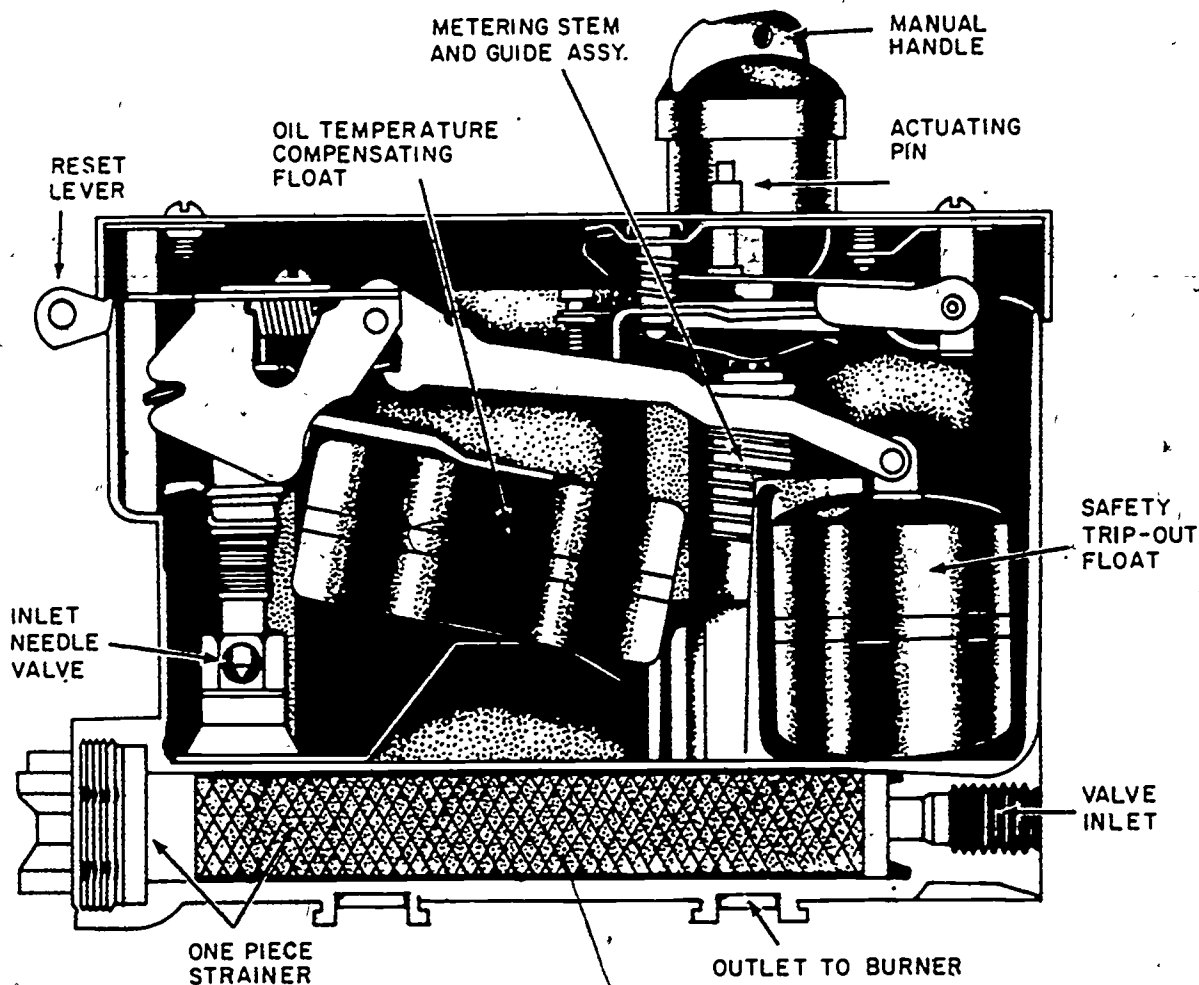

Figure 1-12. Oil control metering valve.
The oil control valve, shown in figure 1-12, is the only control device on the oil-fired space heater. The main purpose of the oil control valve is to meter a precise amount of fuel oil to the burner pot.
The most important part of the oil control valve, even though it has nothing to do with the operation, is the nameplate, mounted on top of the valve by four screws. On this nameplate is the manufacturer's name, operating instructions, and the maximum-and-minimum flow rates (for calibration purposes) stamped on the plate in cubic centimeters per minute (the measurement used for calibration). This nameplate should be mounted on the valve at all times except when performing maintenance on the valve. Figure 1-12 shows the component parts of an oil control valve.
2. Using figure 1-12, list the component parts of a space heater fuel oil control valve.